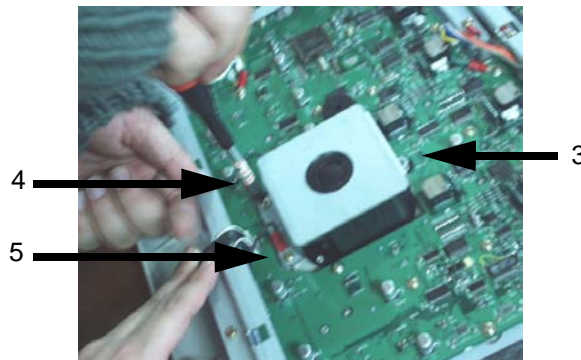

Figure 8-38 Unscrew 3 screws
- 2.) Unscrew three screws (3-5) to remove the Trackball Assy. Refer to Figure 8-38.